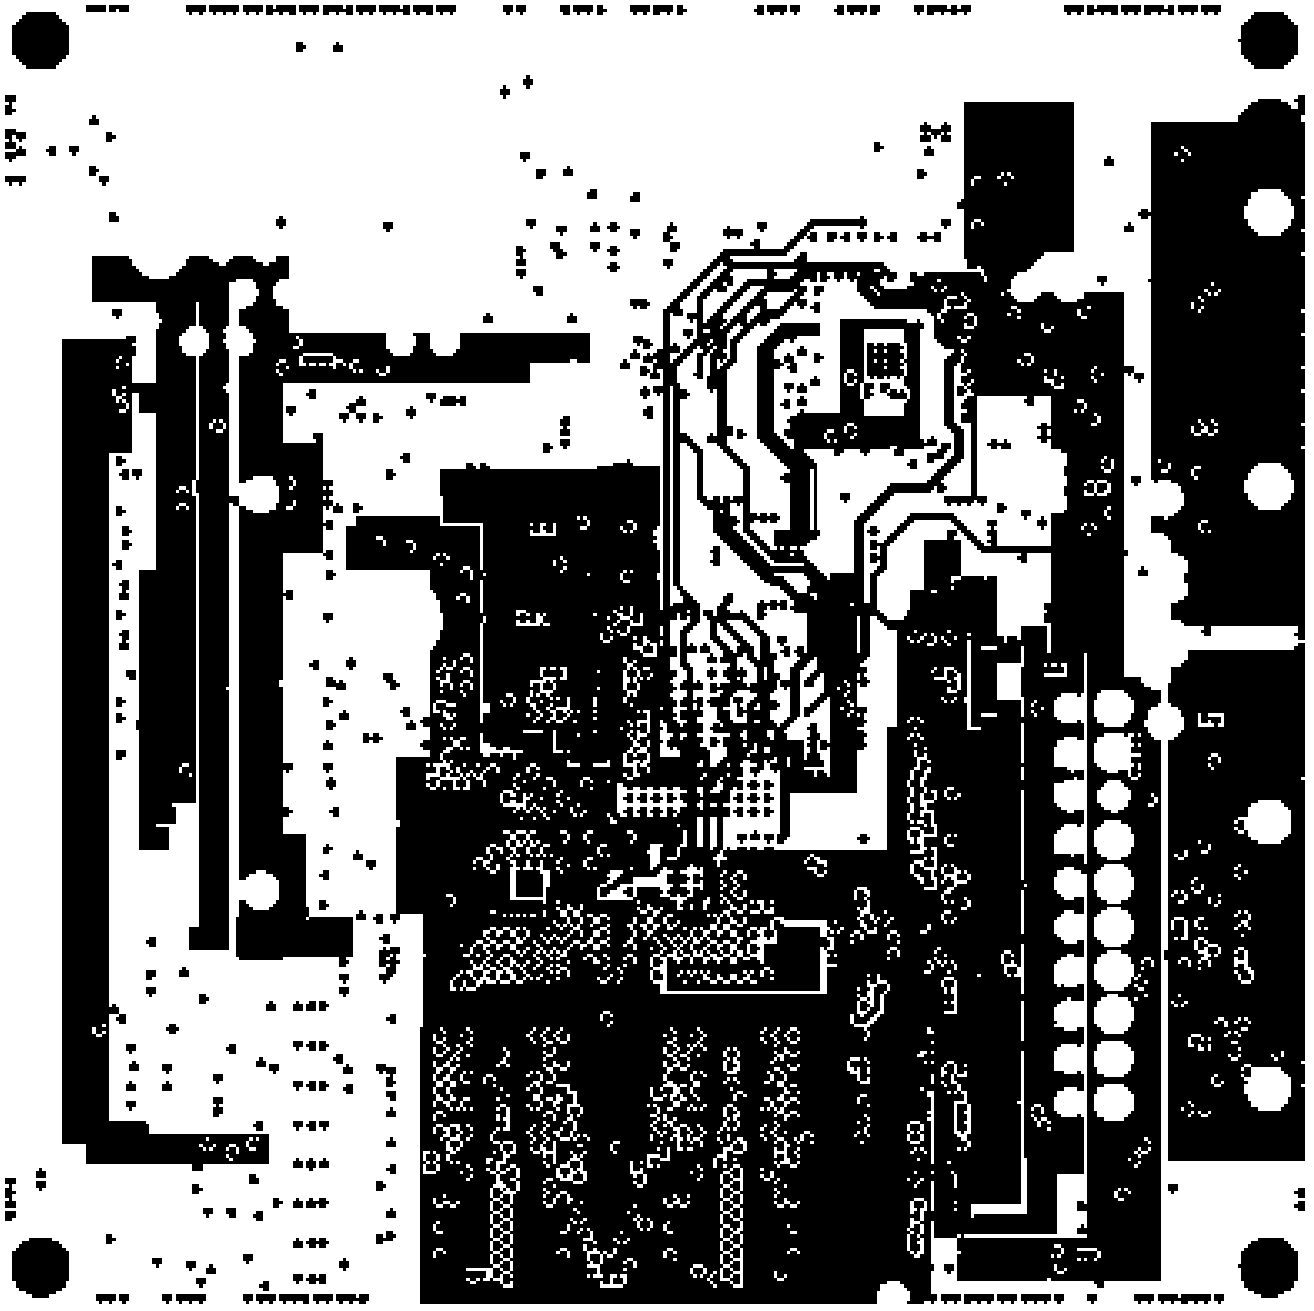

Figure 60. Fourth Etch Layer
- Figure 60. Fourth Etch Layer